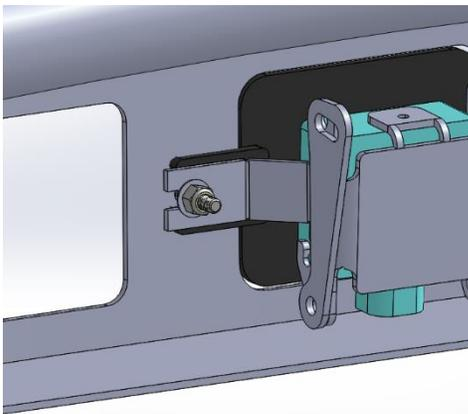

Figure 13: Front Radar Sensor Installation
12. Install sensor bracket assembly into front bumper utilizing the bolts holding the collision window as shown in Figure 13.